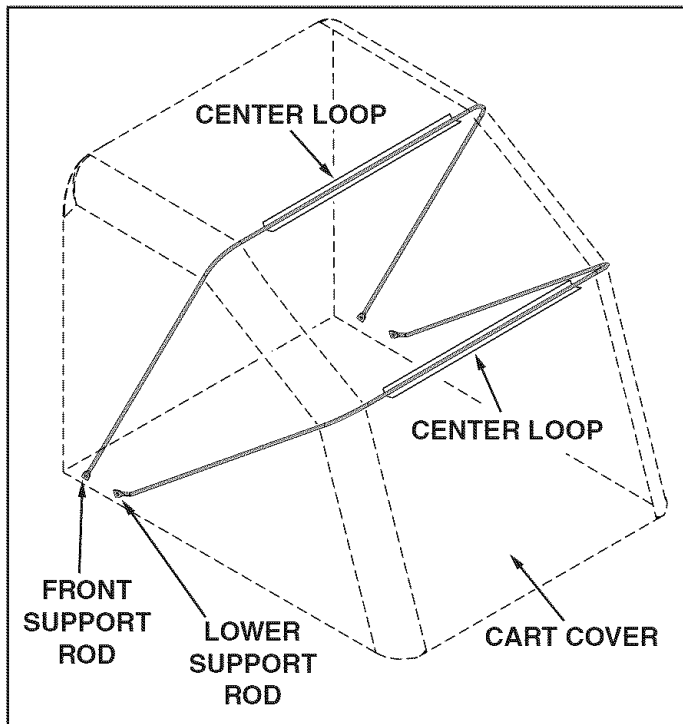

FIGURE 15
2. Slide the front (straight) support rod through the center loop (located in the top of the cart cover) closest to the front of the bag. Slide a lower support rod (bent) through the center loop behind the front rod. See figure 15.